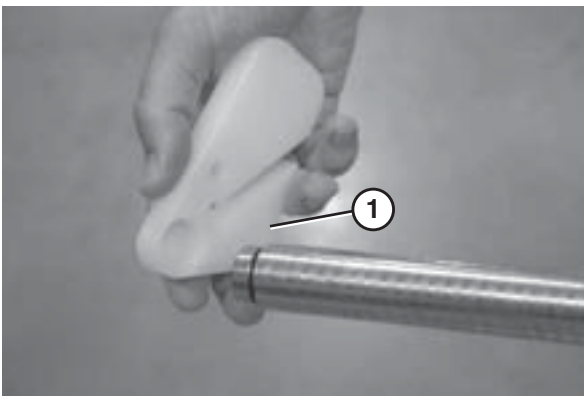

**Figure 85**
2. Using a bearing removal tool (Figure 85, item 1), remove the bearing (Figure 85, item 2).